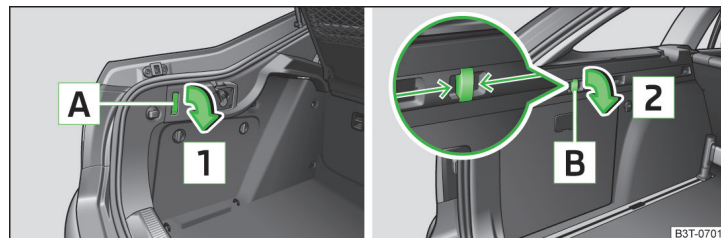

Fig. 100 Folding hooks: Superb / Superb Combi
- Superb: Press on the lower portion of the hook **A** and fold down direction of the arrow **1** » Fig. 100.
- Superb Combi: Grip the hook **B** direction of the arrow and fold down in the direction of arrow **2** » Fig. 100.